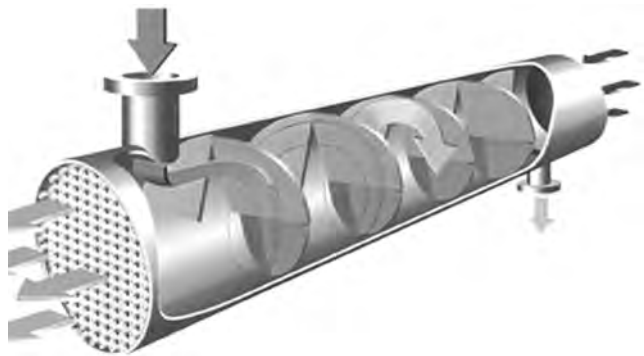

FIGURE 10.30 Helixchanger heat exchanger.
- A *Helixchanger* heat exchanger uses quadrant-shaped baffle plates that are arranged at an angle to the tube axis in a sequential pattern, creating a helical flow path through the tube bundle as shown in Figure 10.30.